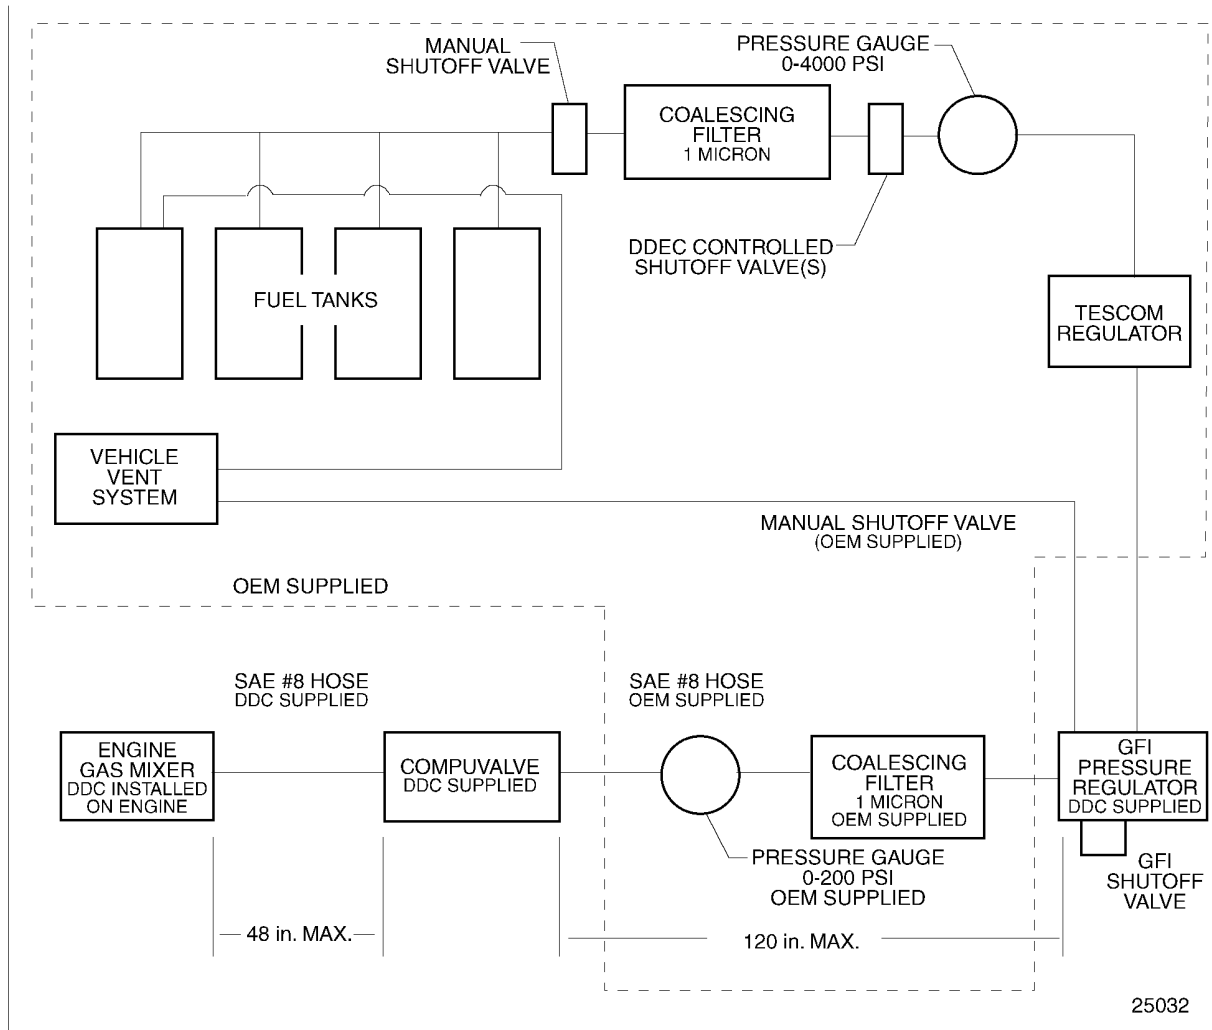
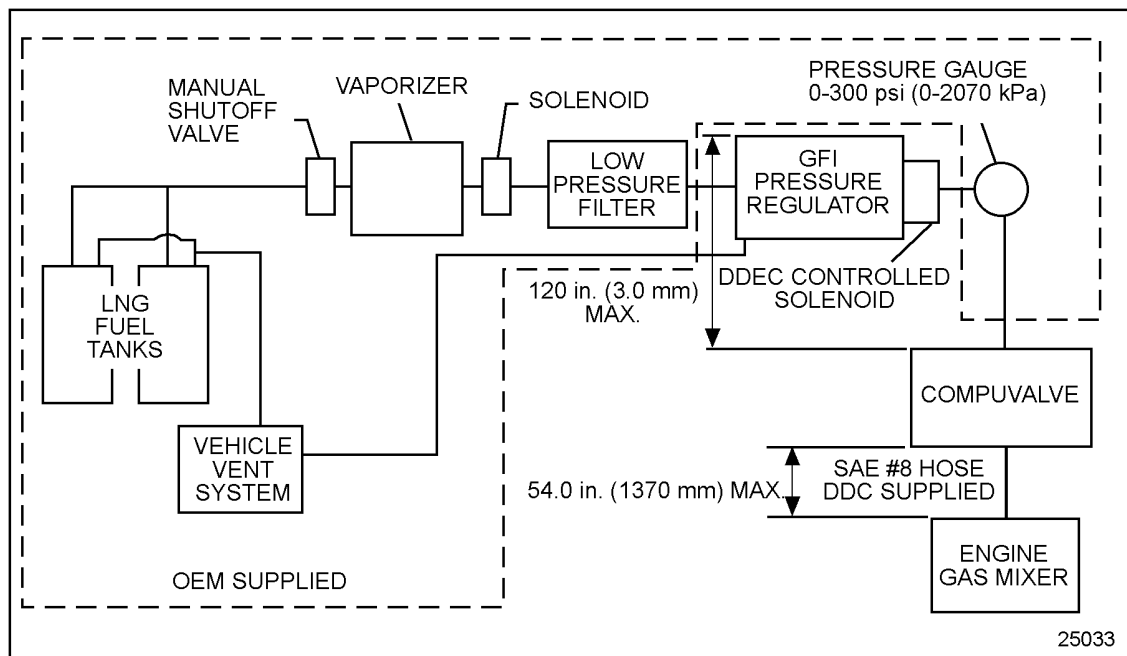

Figure 2-84 Compressed Natural Gas Fuel System Description
Figure 2-85 Liquefied Natural Gas Fuel System
- ☐ Hose from coalescing fuel filter to compuvalve. See Figure 2-84 and see Figure 2-85.
In CNG installations, fuel is stored in the fuel tanks under pressure as high as 3615 PSIA (3600 PSIG). In some installations, a high pressure fuel line supplies natural gas from the fuel tank to a Tescom regulator where it is reduced to an approximate pressure of 515 PSIA (500 PSIG) prior to entering the GFI pressure regulator. In newer CNG installations the TESCOM regulator has been eliminated and fuel is supplied to a different GFI regulator at pressures up to 3615 PSIA (3600 PSIG). Regardless of which installation type is used, the fuel pressure out of the GFI regulator should remain above 125 PSIA (110 PSIG). From the regulator, the fuel passes through a 1 micron coalescing gas filter to the computer and metering valve (compuvalve). The compuvalve then regulates fuel flow by means of a series of electronically controlled solenoids and injectors. Fuel is then passed to the gas mixing unit located in the air intake system upstream of the engine throttle. See Figure 2-84.
In LNG installations fuel is stored in cryogenic storage tanks under pressure at extremely cold temperatures. The LNG fuel flows from the tank as a liquid or mixture of liquid and vapor through the manual shutoff valve to the vaporizer. The fuel is heated in the vaporizer and any liquid natural gas is vaporized or changed to a gaseous state. Regulators and control valves in the vehicle fuel system control the rate that fuel is supplied to the vaporizer and control the pressure of the gaseous fuel supply exiting the vaporizer. The vaporized fuel passes through an ignition controlled fuel shutoff valve to a one micron fuel filter and then on to the GFI regulator and comp valve. The minimum inlet pressure to the GFI regulator 135 PSIA (120 PSIG). The pressure may be as high as 265 PSIA (250 PSIG). The GFI regulator and comp valve for the LNG fuel system are different than those for the CNG fuel system. Fuel is metered from the comp valve and passed to the gas mixing unit located in the air intake system upstream from the throttle. See Figure 2-85.